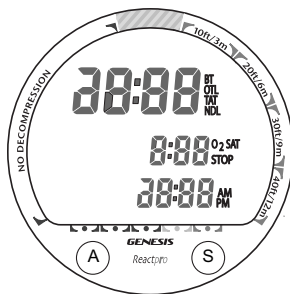

Fig. 8 - Time Displays
The largest display is the **Main Time** display (Fig. 8 - top row of digits). Indicated are theoretical No Decompression Limit (NDL), Oxygen Tolerance Limit (OTL), Elapsed Dive Time (BT), Total Ascent Time (TAT), or Surface Time (indicated by the Wave icon below it), depending on the operating mode that the ReACT Pro is in.
A second time display (Fig. 8 - middle row of digits) indicates Decompression Stop Time required at the stop depth indicated, or Time to Desaturate after a dive, depending on the operating mode that the unit is in.
The third time display (Fig. 8 - bottom row of digits) indicates Time of Day, or Time to Fly after a dive, depending on the operating mode that the unit is in.